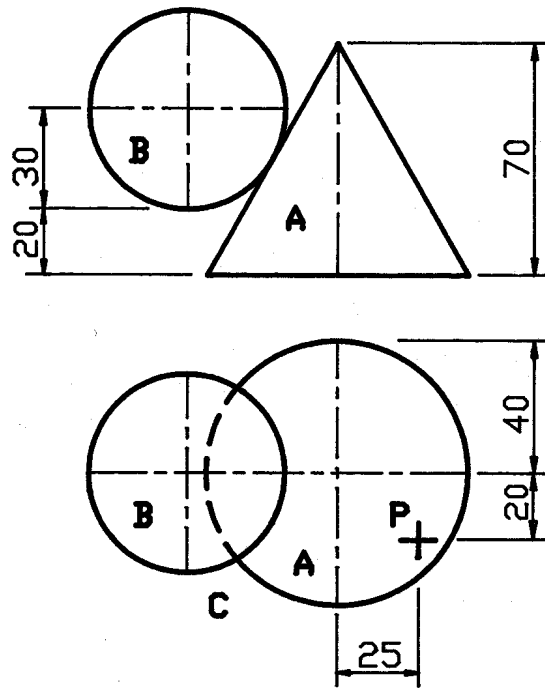

Fig. 3
3. Fig. 3 shows the plan and elevation of a right cone A and a sphere B in contact with each other. Also shown is the plan of a point P on the surface of the cone.